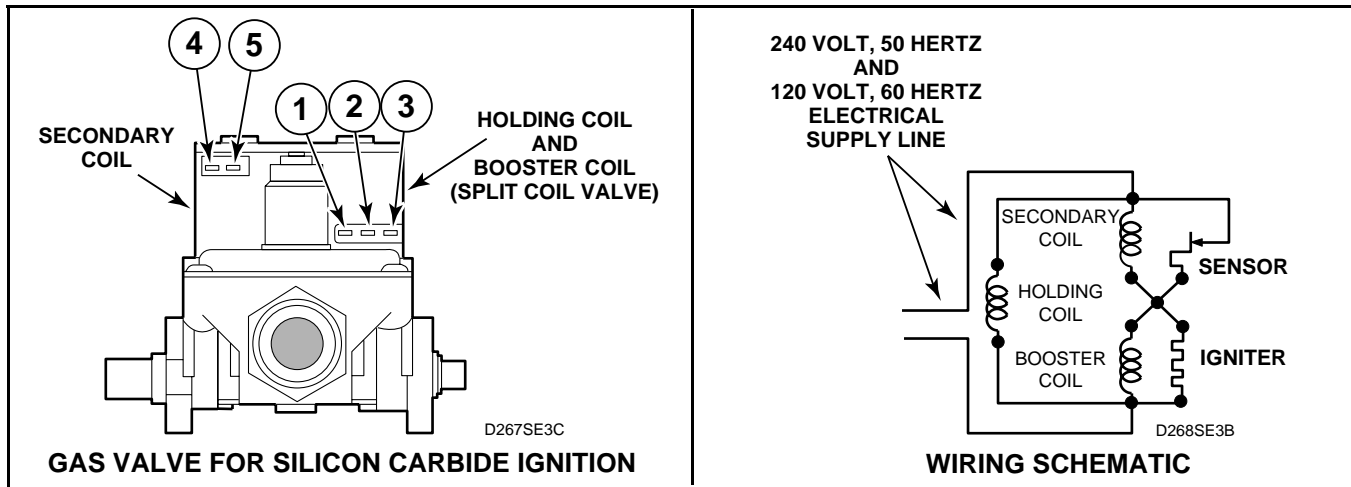

Figure 62
(Figure 62)
- d. Remove valve wire harness disconnect block from the holding and booster coil. See *Figure 62*.
- f. Set test meter to read AC voltage and apply meter probes into terminals on the dryer harness plug that would correspond to terminals 1 and 2 on the coil. See *Figure 62*. Meter should register line voltage in all Fabric settings, except FLUFF which should read “zero” VAC.